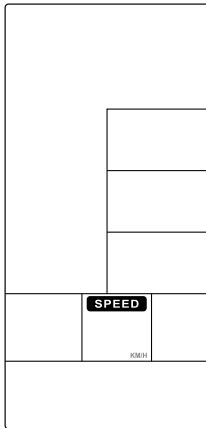

Figure 50
1. Hold on START&ENTER key for 2s, buzzer will sound 1 long beep. SPEED keep lighting up, M/H,KM/H flash once per second (Figure 50~51).